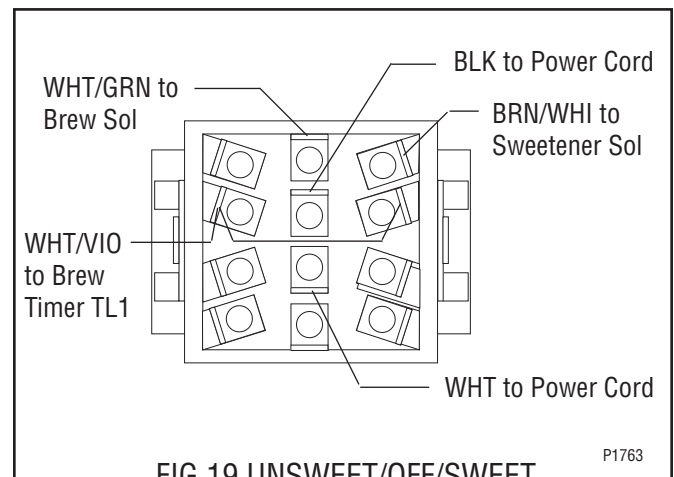

FIG. 19 UNSWEET/OFF/SWEET SWITCH TERMINALS
4. Refer to FIG. 19 when reconnecting the wires.
10. Refer to Fig. 19 when reconnecting the wires.